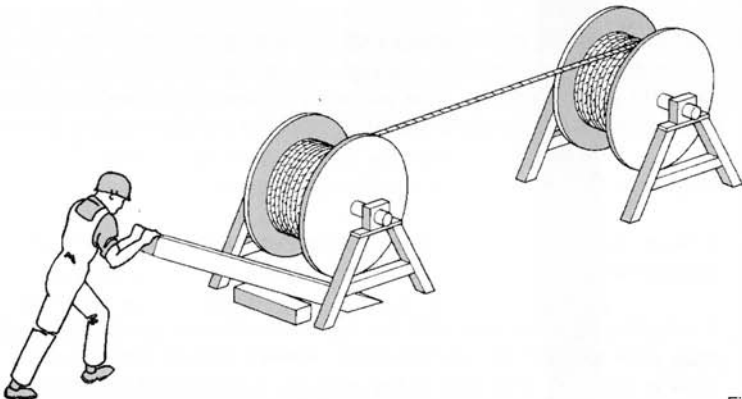

Fig. 7
capability of providing a back tension in the rope as it is being transferred from reel to drum. This is to ensure that the underlying (and subsequent) laps are wound tightly on the drum. (see fig. 7.)
- Ensure that the reel stand is mounted so as not to create a reverse bend during reeving (i.e. for a winch drum with an overlap rope, take the rope off the reel overlap). (See fig. 7.)